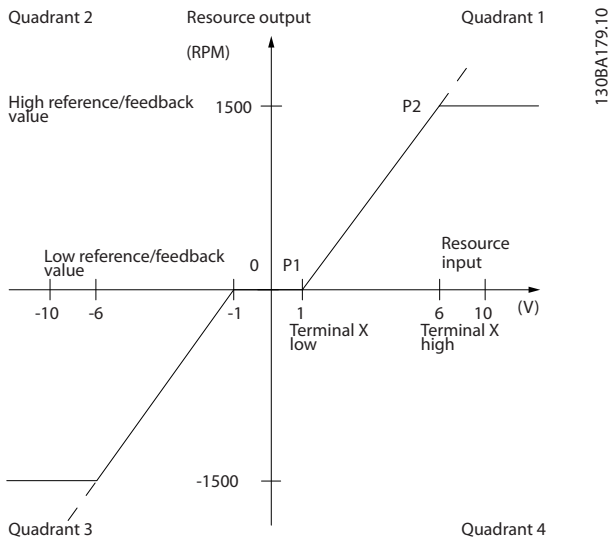

Figure 3.19 Dead Band
- Either Minimum Reference Value or Maximum Reference Value must be zero. In other words, Either P1 or P2 must be on the X-axis in *Figure 3.19*.
The size of the dead band is defined by either P1 or P2 as shown in *Figure 3.19*.